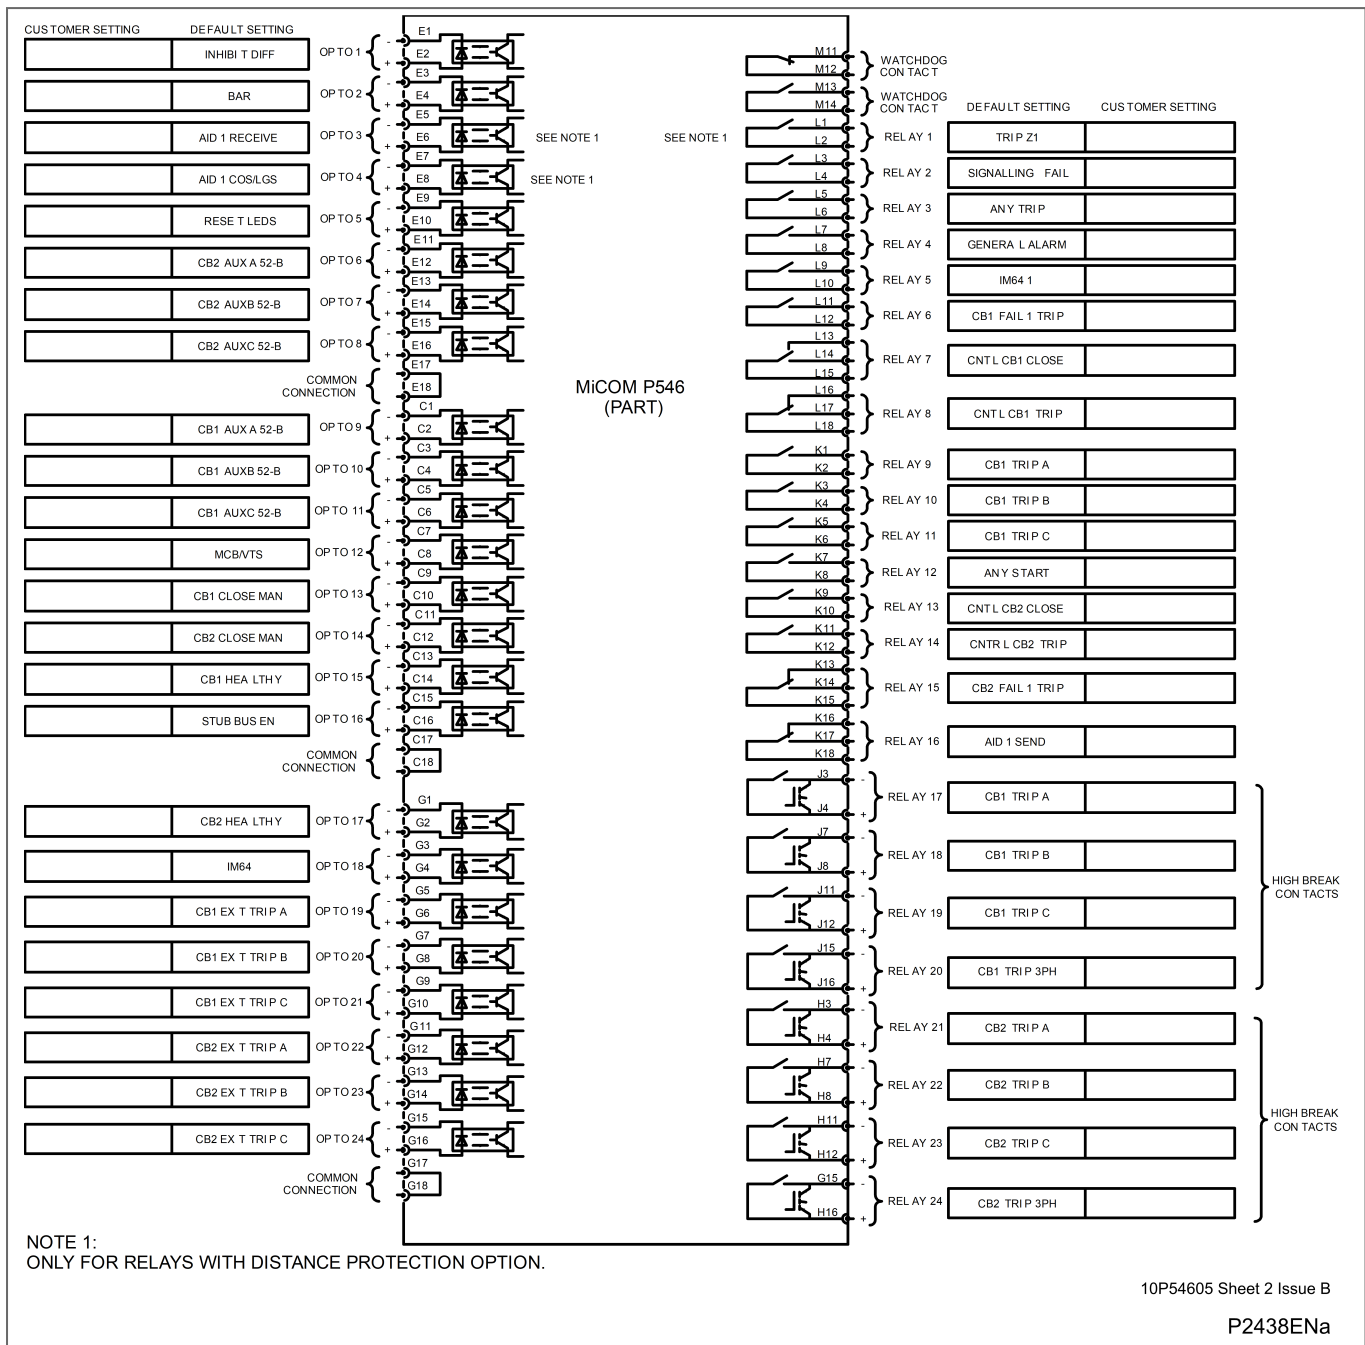

Figure 24 - P546 - 24 inputs/outputs default mapping – 16 standard and 8 high-break outputs
- Figure 24 - P546 - 24 inputs/outputs default mapping – 16 standard and 8 high-break outputs